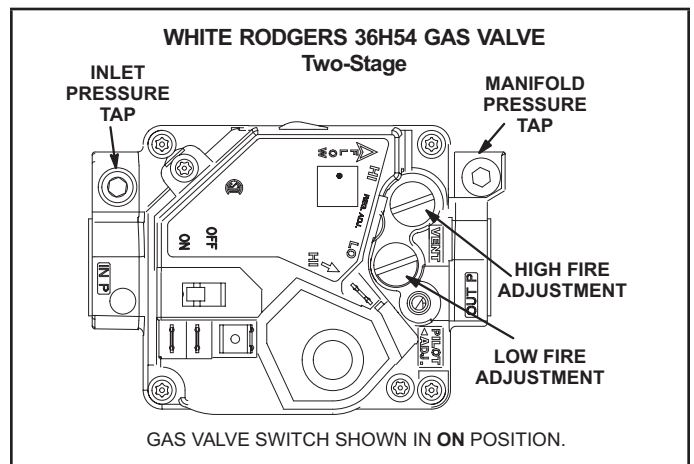

FIGURE 23
Gas Valve Operation for Honeywell VR8205Q / VR8305Q and White Rodgers 36H54 (FIGURE 23)
- 5 - Turn gas valve switch to **OFF**. See FIGURE 23.
- 6 - Wait five (5) minutes to clear out any gas. If you then smell gas, **STOP!** Immediately call your gas supplier from a neighbor's phone. Follow the gas supplier's instructions. If you do not smell gas, go to the next step.
- 7 - Turn gas valve switch to **ON**. See FIGURE 23.